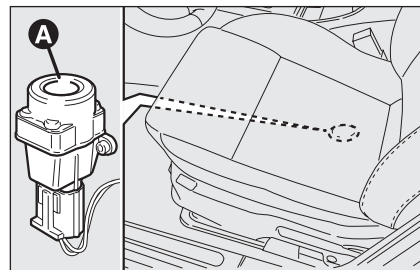

fig. 53
To reset the fuel cut-off switch, press button **A**-fig. 53.
- ☐ press button **A-fig. 53** to reset the fuel cut-off switch;